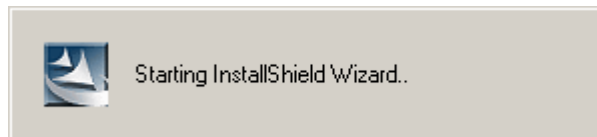

Figure 7-33: RTL8110SC InstallShield Wizard
Step 9: The **InstallShield Wizard** is prepared to guide the user through the rest of the process (**Figure 7-33**).